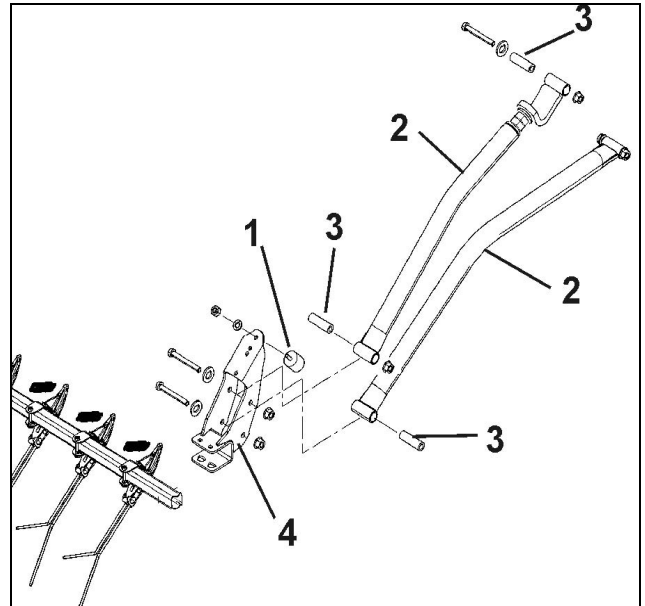
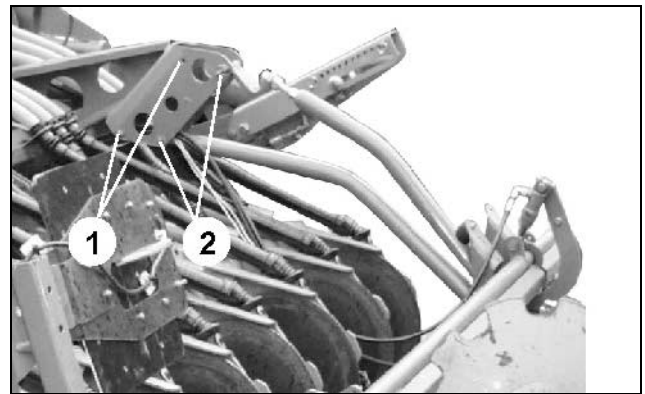

Fig. 41
Fig. 42
- Bolt on swing-metal buffers (Fig. 41/1).
- Bolt the carrying tubes (Fig. 41/2) by using bearing sleeves (Fig. 41/3) on to the brackets (Fig. 42/1, 2) and sockets (Fig. 41/4) of the exact harrow.
- Make use of the fixing points (Fig. 42/1) when using WS or ROTEC-coulters.
- Make use of the fixing points (Fig. 42/2) when using ROTEC+-coulters.